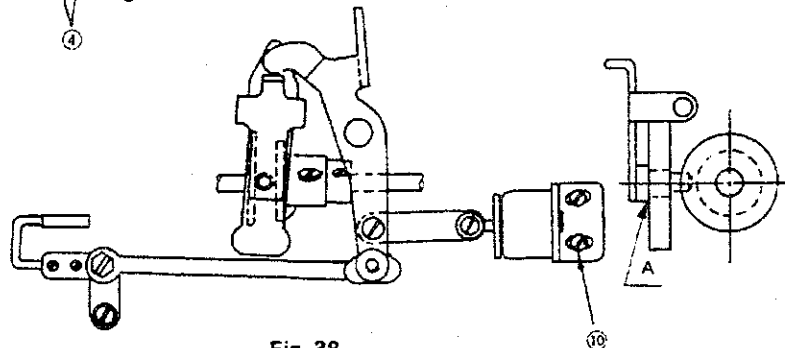

Fig. 38
The thread trimmer solenoid stroke is 6 mm (0.236"). Position the clutch disc and solenoid so that, when the thread trimmer solenoid is actuated, clearance A becomes 0.1 mm (0.004") to 0.5 mm (0.019"). Then tighten setscrews ⑩ (Fig. 38).